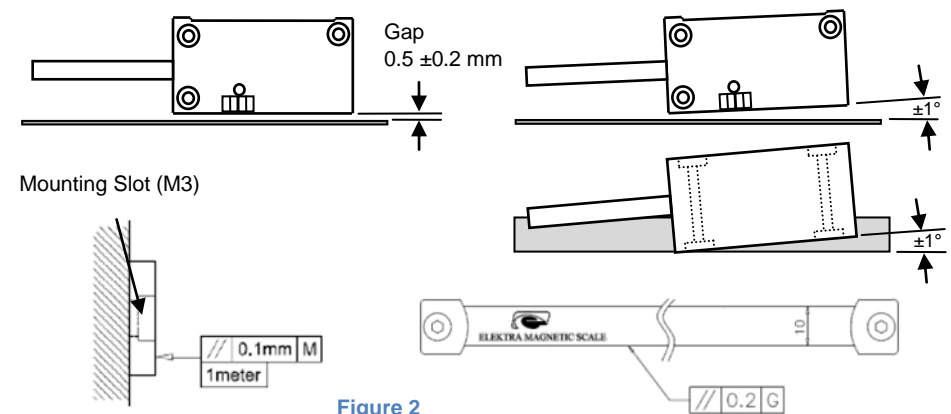

Figure 2
**Reader head:** Standard gap between reader head and tape should be as shown in table in Figure 2. Plastic shim is provided to maintain this gap between reader head and tape during installation. Refer Figure 2 for further alignment data.